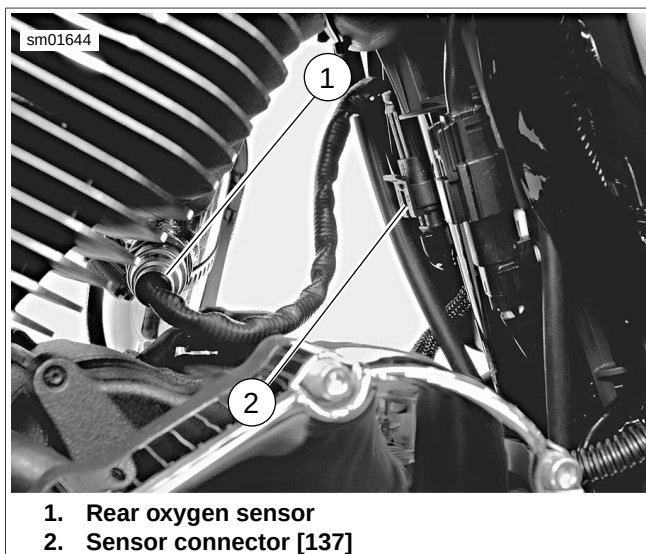

Figure 4-67. Rear Oxygen Sensor and Connector, typical (XL model shown)
- b. **Rear O2 sensor:** see Figure 4-67. Disengage connector [137] (2) from mounting tab. Unplug connector [137A] from wiring harness connector [137B].
- Rear O2 sensor:** see Figure 4-67. Plug connector [137A] (2) into wiring harness connector [137B]. Engage connector assembly onto mounting tab on bracket.